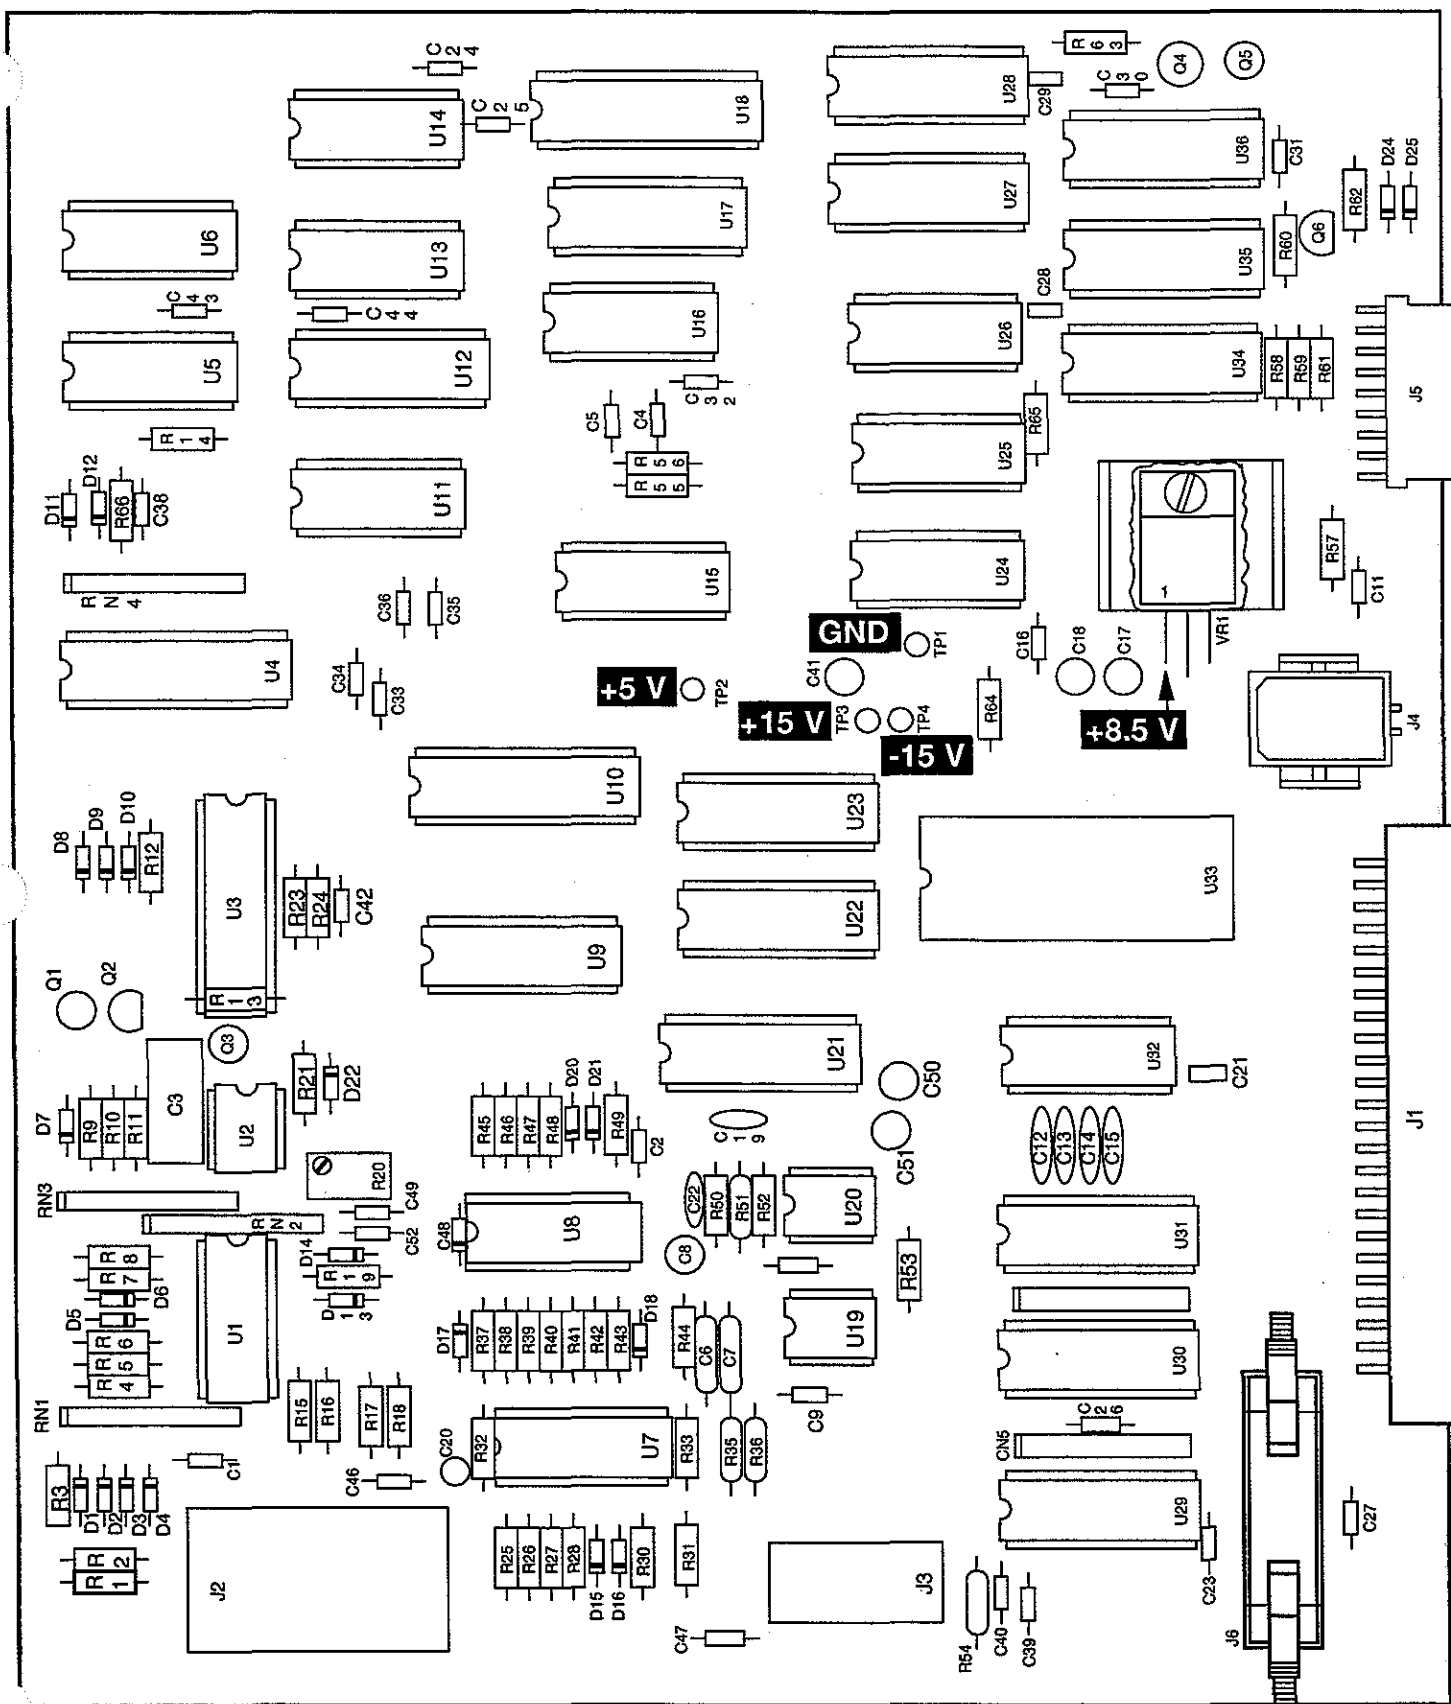

Figure 7-2
2. Refer to Figure 7-2 and 7-3. Check the following voltage supplies: